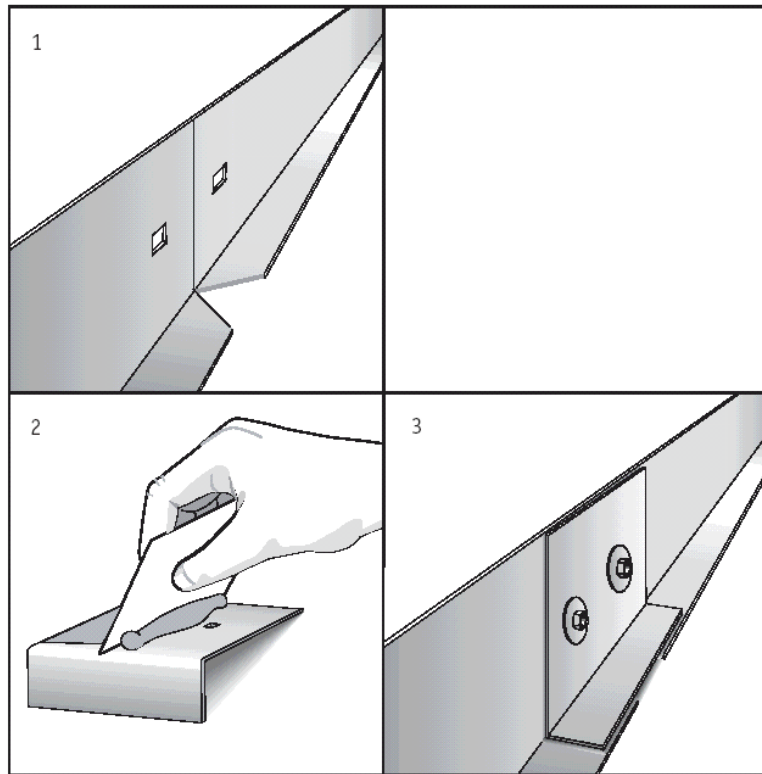

Figure 5.6 – Assembling Barrier Splices
- 5.10 Proceed along the Barrier perimeter while repeating steps 5.6 and 5.7. Use a Splice Plate where joining Strips is required (Figure 5.6).